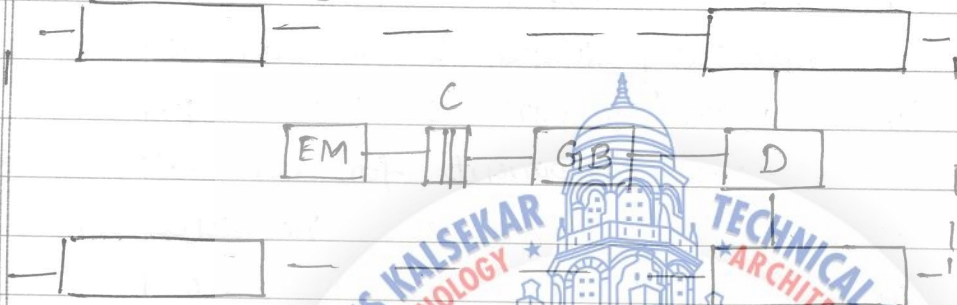

fig 1 (a)
In fig 1 (a) a single electric motor configuration with gear box (GB), a clutch and a differential (D).
- The clutch (C) enables the connection or disconnection of power flow from EM to the wheels.